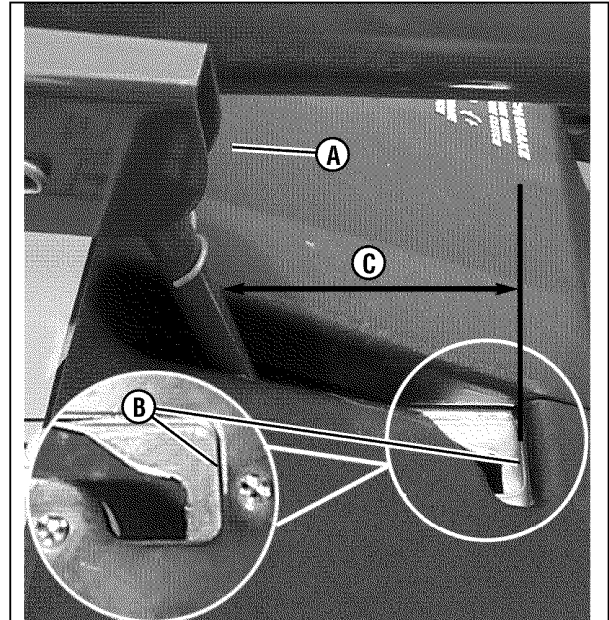

Figure 32: Measuring blade brake clearance
1. With the blade engagement lever disengaged, measure the distance between the front of the blade lever (A, **Figure 32**) and the edge of the latch plate (B). The dimension (C) should be 3" to 3-1/4" clearance between the lever and the edge of the plate. If the dimension is incorrect go to step 2.